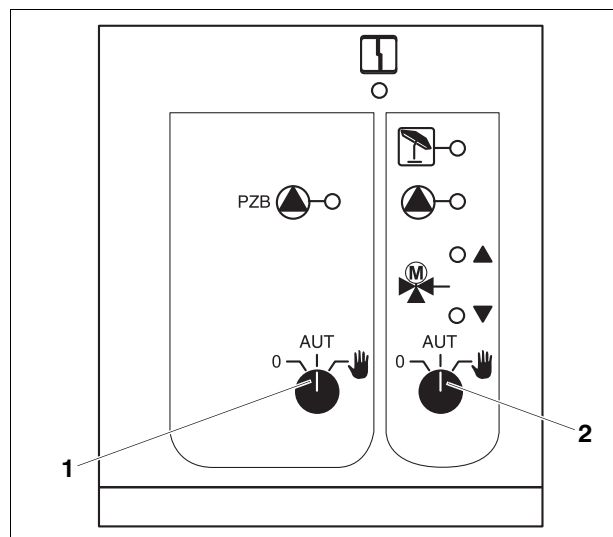

Fig. 26 ZM433 central module
- Set supply circuit (→ Fig. 26, [1]) via selector
- Set heating zone (→ Fig. 26, [2]) at selector